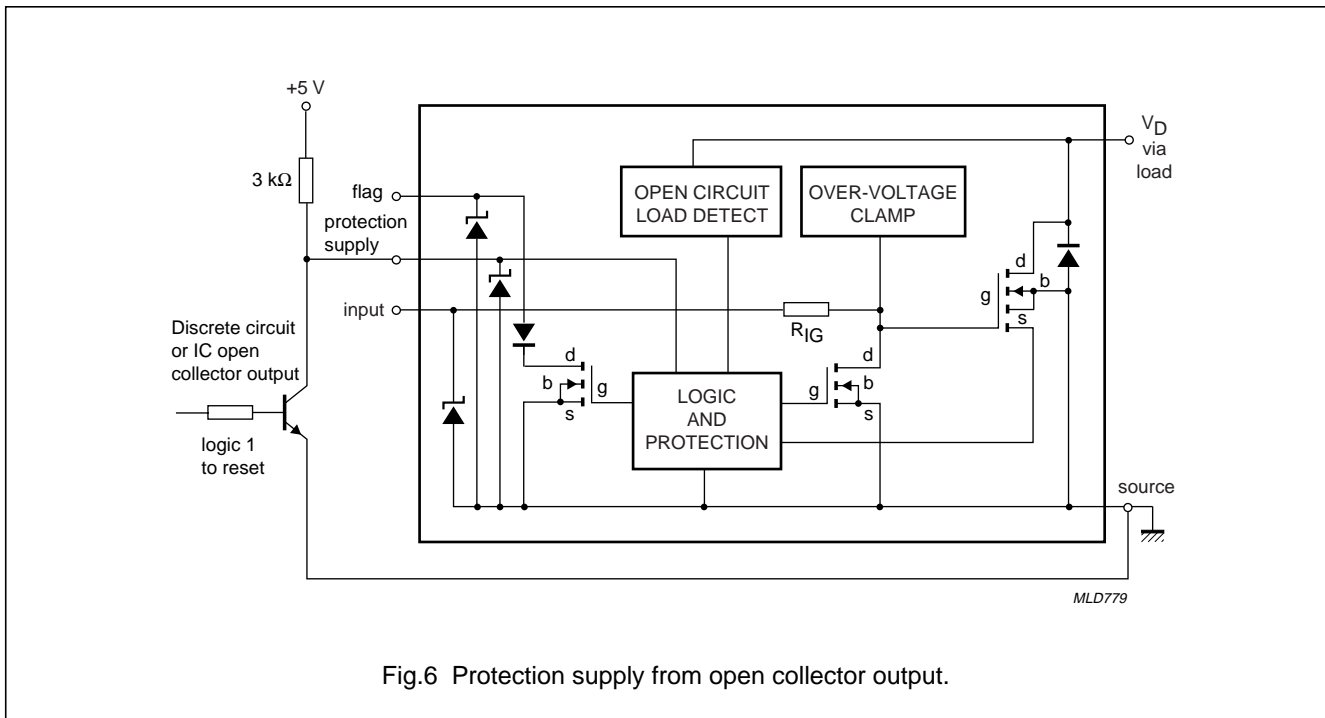

Fig.6 Protection supply from open collector output.
- The protection supply can be derived directly from the 5 V logic supply. This, however, requires the removal of the power to reset a trip condition. Connection to 5 V via a pull-up resistor of 3 kΩ allows a transistor pull-down for resetting (see Fig.6).